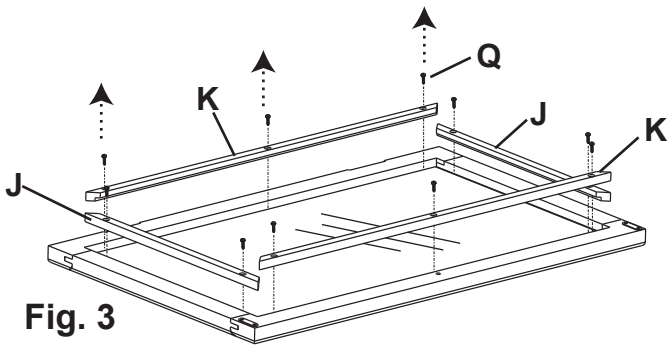

Fig. 3
3. To finish the Large Door Frame (E), you must first remove the glass. Remove the door from its hinges and lay it face-down on a clean, protected surface. Remove the #6x3/4" Brass Flat Head Screws, the Door Glass Support Stiles (K), Door Glass Support Rails (J) and set aside. Carefully lift the Large Door Glass (G) and put it safely away. Finish the door frame, stiles and rails and, after the finish dries, replace the glass and reattach the Door Glass Support Rails (J) and Door Glass Support Stiles (K) with #6x3/4" Brass Flat Head Screws (Q). Rehang the door. See Figures 3, 3a and 3b.